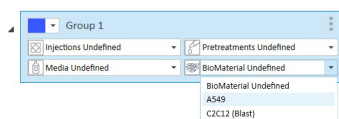

Figure 14 Duplicate and Delete function toggle
- 2 Use the drop-down menus to assign the appropriate **Group Definitions** to **Group 1**. (See Figure 14.)